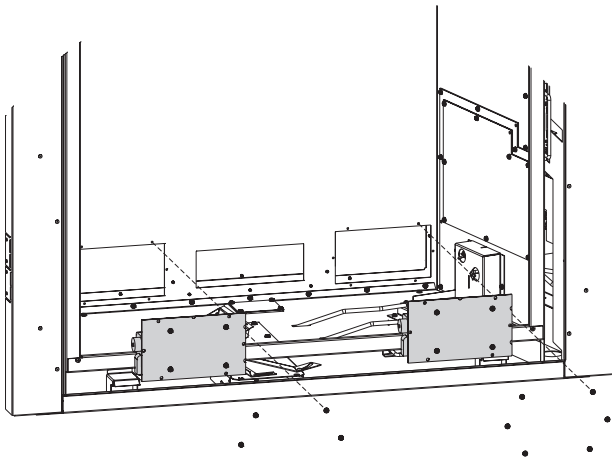

Figure 9
4. Remove Blower Brackets by taking out (6) screws each. (Figure 9)